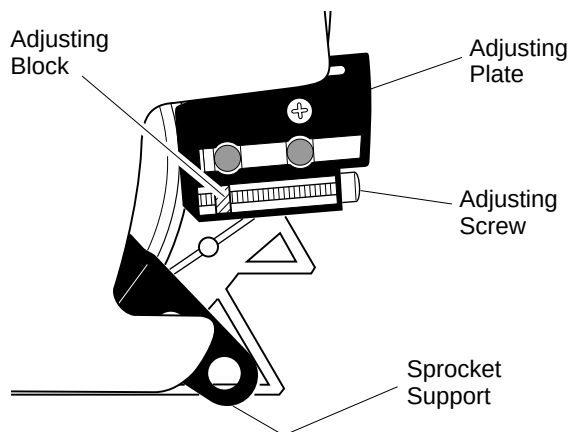

Figure 4 - Part Locations For Assembling Guide Bar
4. Turn adjusting screw counterclockwise (see Figure 4, page 7). Continue to turn adjusting screw until adjusting block is to rear of adjusting plate.